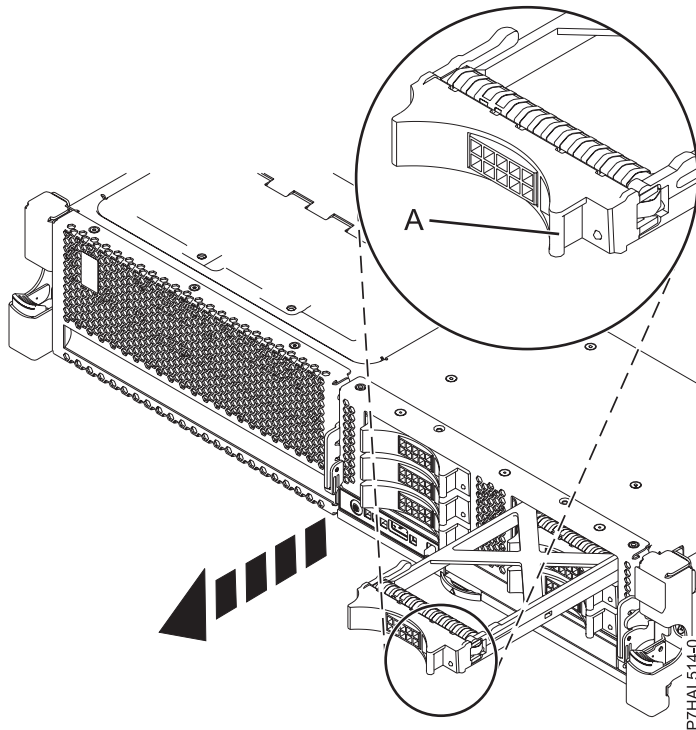

Figure 31. Removing a disk drive filler
3. Hold the filler handle (A) and pull out the disk-drive filler from the slot, as shown in Figure 31.